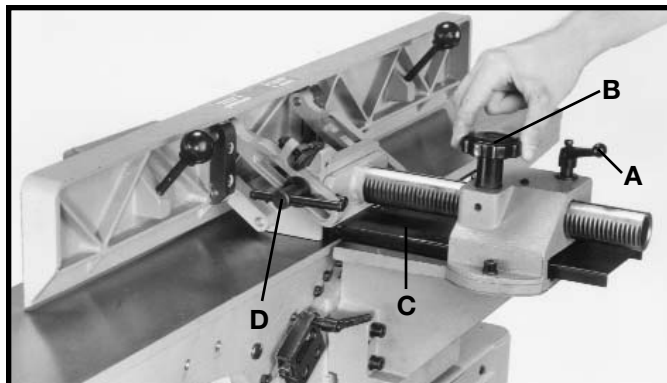
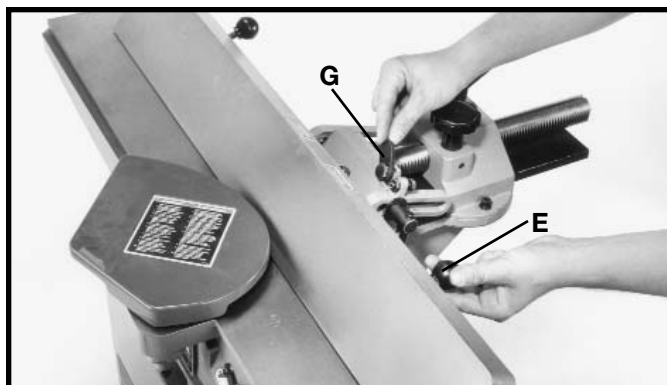

Fig. 48
Fig. 49
1. To move the fence across the table, loosen lock handle (A) Fig. 48, and turn knob (B) until desired fence location is reached. Then tighten lock handle (A). As the fence is moved across the table, the rear cutterhead guard (C) covers and guards the cutterhead in back of the fence.
**NOTE:** Lock handle (A) is spring-loaded and can be repositioned by pulling up on the handle and repositioning it on the serrated nut located underneath the hub of the handle.
2. To tilt the fence in or out, loosen lock handle (D) Fig. 48. While holding fence tilting handle (E) Fig. 49, rotate 90° flip stop (G) and tilt the fence to the desired angle, in or out, and tighten lock handle (D) Fig. 48. **IMPORTANT:** When cutting bevels and the angle is small, there is little difference whether the fence is tilted in or out; however, at angles approaching 45 degrees it may become difficult to hold the work securely against the fence when the fence is tilted out. In these cases we suggest that the fence be tilted toward the table, as shown in Fig. 50. The fence will form a V-shape with the tables and the work is easily pressed into the pocket while passing across the knives.